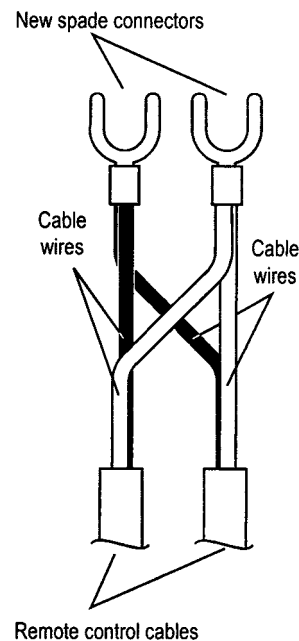

fig. 3
3. Cut the spade connectors from all four controller cables to be connected to the appliance (8 connectors should be cut off) and discard. Connect the wires from two remotes and terminate into two new spade connectors as shown in fig. 3.